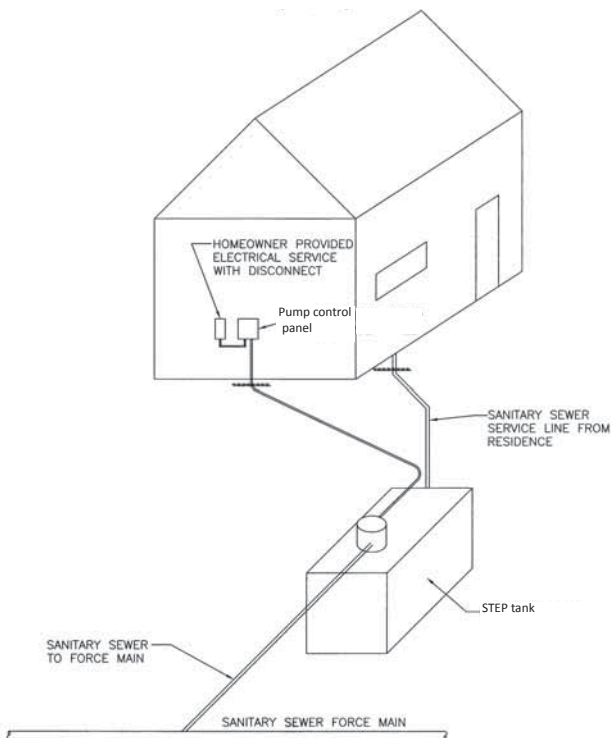

Figure 1. Typical homeowner-provided electrical circuit with signed easement.
1. The homeowner shall provide a dedicated 120 Volt, Single Phase, 20-Amp Circuit with Disconnect switch. All external boxes shall be rated NEMA 3R. A typical installation is shown in Figure 1.
3. If an electrical easement has been signed and the homeowner wishes the pump control panel to be mounted on the side of the house, the homeowner shall install the Disconnect in an area where there is acceptable space for mounting both the Disconnect and the pump control panel immediately adjacent. The pump control panel dimensions are 12 inches (height) x 10 inches (width) x 6 inches (depth). See Figure 1.